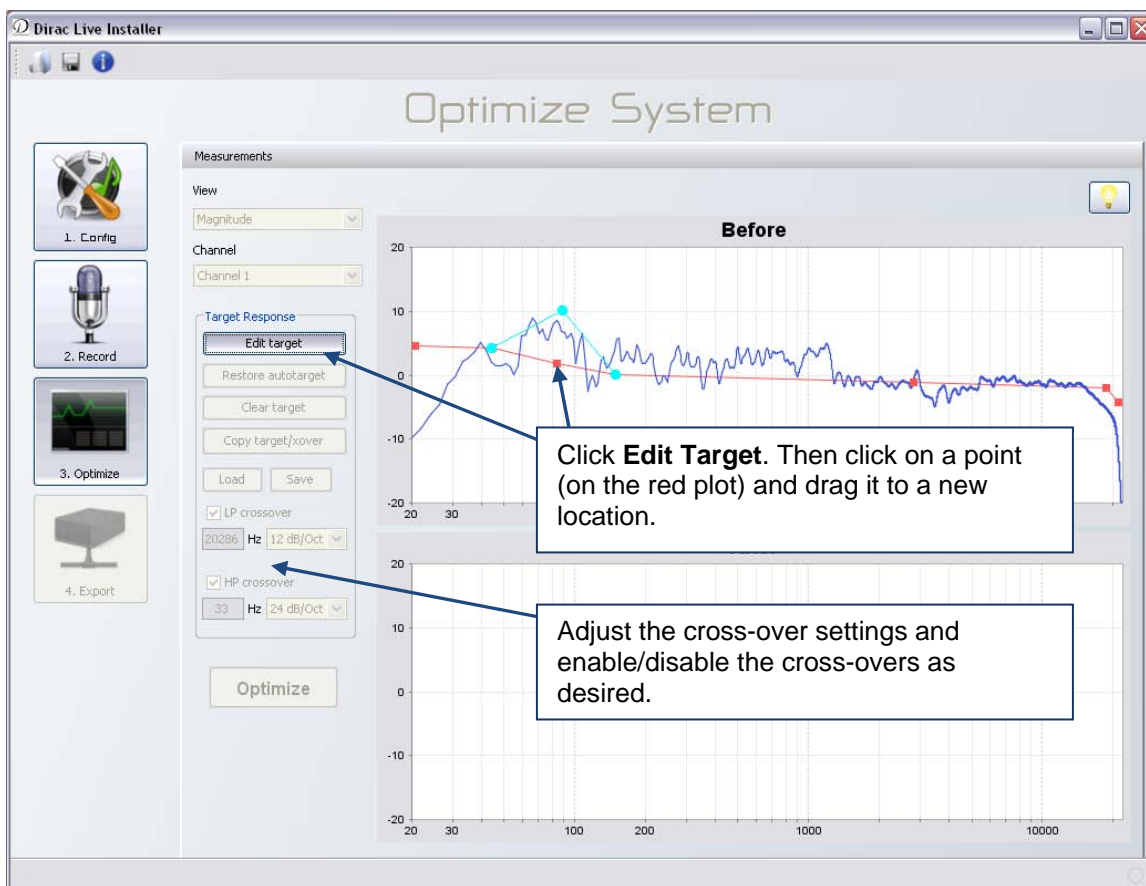

Figure 15. Optimize System Screen
1. Click the **Edit Target** button to edit the target. See Figure 15.